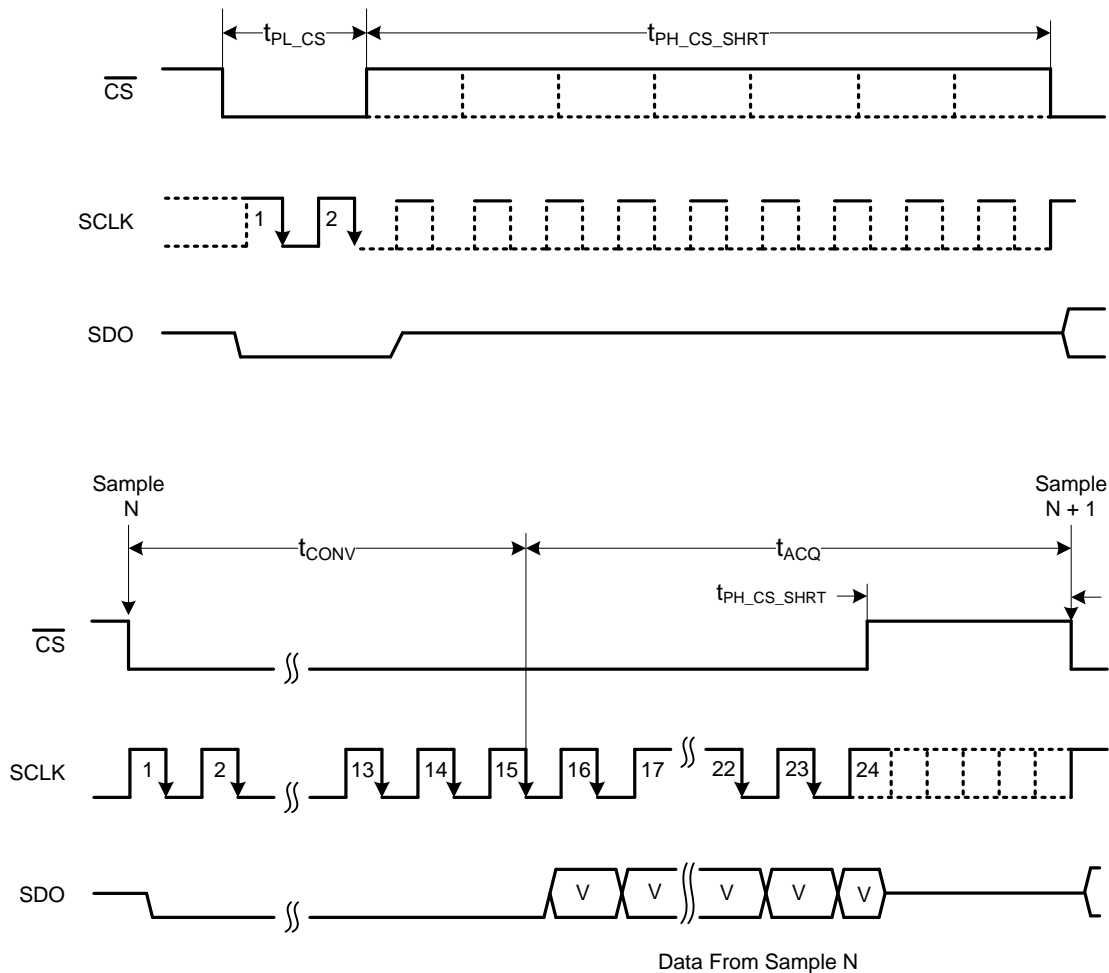

图 31. Frame Abort, Reconversion, or Short-Cycling Feature
As shown in 图 31, the minimum number of SCLK falling edges (N) that must be provided between the beginning and end of the frame depends on the serial interface mode. The SCLK falling edges (N) program the device and retrieve the conversion result. If \overline{CS} is brought high before the expected number of SCLK falling edges are provided, the current frame is aborted and the device starts sampling the new analog input signal.